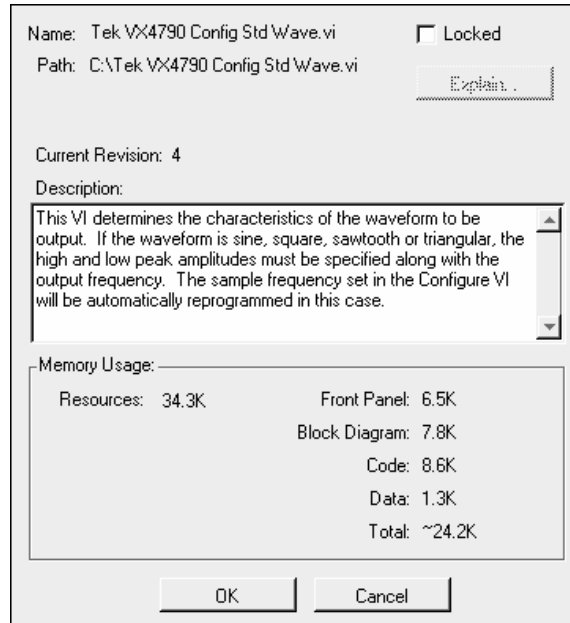

Figure 13. Show VI Info... Option from the Windows Menu.
- General Description help is available from the description box of the information window when a user selects **Show VI Info. . .** from the **Windows** menu (see Figure 13). This dialog box should contain a general description of the instrument driver VI including any control usage rules or VI interaction that should be brought to the user's attention.